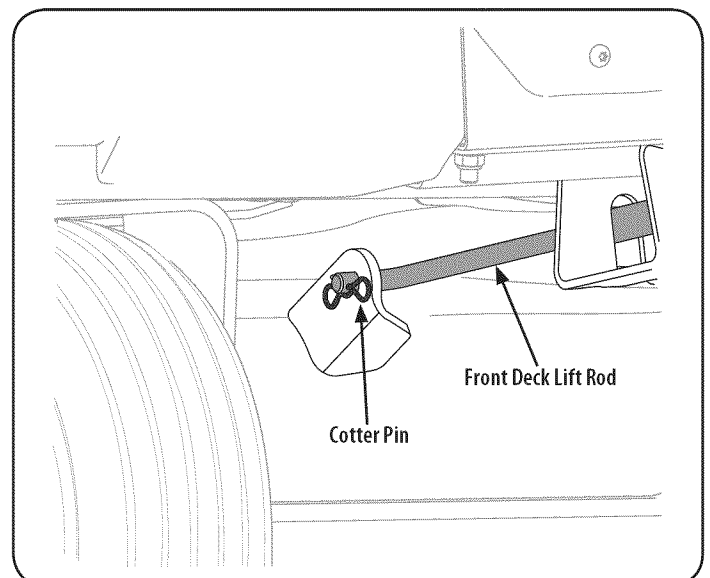

Figure 34
7. Pull the cotter pin out of the front deck lift rod securing it to the deck. See Figure 34. Slide the deck lift rod out of the front hanger bracket.
6. Reinstall the front deck lift rod and secure in place with the cotter pin. Refer to Figure 34.